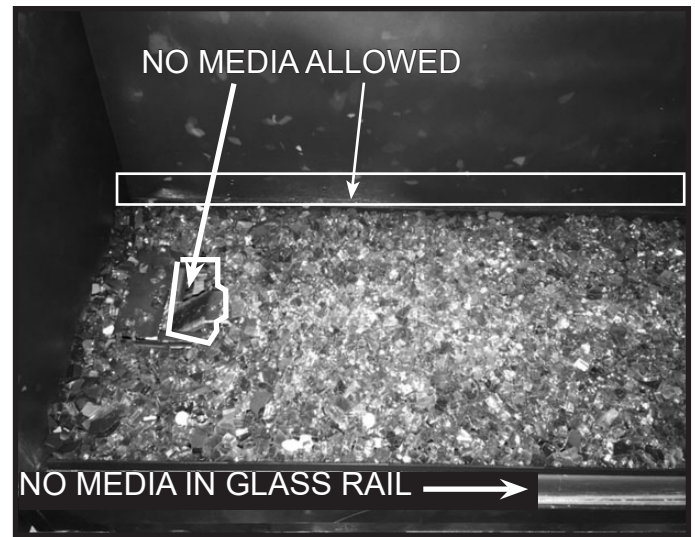

Figure 6. Media Installed
- DO NOT** allow media to fall between the media tray and the back of the firebox. Remove any fallen media before proceeding. See Figure 6.
- Remove any glass media that may have fallen in the bottom glass rail. Glass will not install properly if media is present in glass rail. See Figure 6.